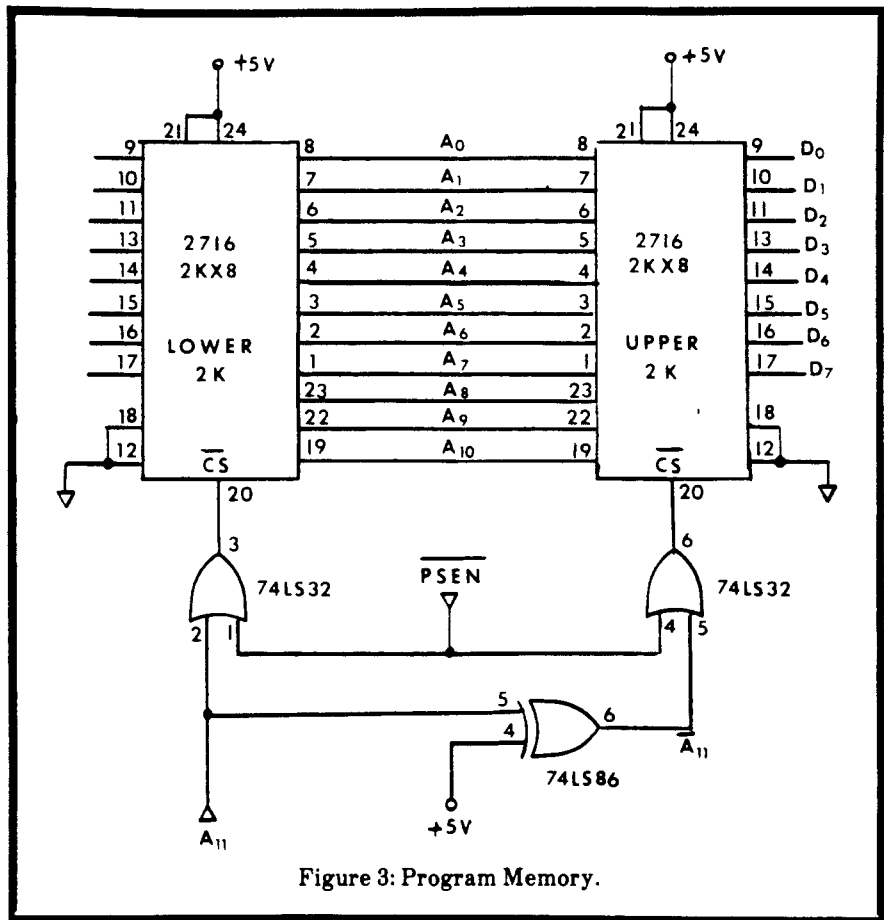

Figure 3: Program Memory.
**Program Memory.** The program memory is the only memory space that can contain program instructions. The 8035 multiplexes 12 program memory address lines (A0 through A11). This means that the CPU is capable of addressing 4096 (212) memory locations. Referring to Figure 3, A0 through A10 are obtained directly from the 74LS373 address latches. Address bit A11 is decoded via a 74LS32 and a 74LS86 to determine which 2K program memory block (which 2716) is to be addressed.  $\overline{PSEN}$  is the pulse which strobes the instruction into the CPU. When  $\overline{PSEN}$  goes low it will be "ORed" with A11 and  $\overline{A}_{11}$ . The result of this "ORing" will output a low pulse to the  $\overline{CS}$  on the appropriate program memory. The active memory will then supply an 8-bit word which is strobed into the instruction register via the data bus.